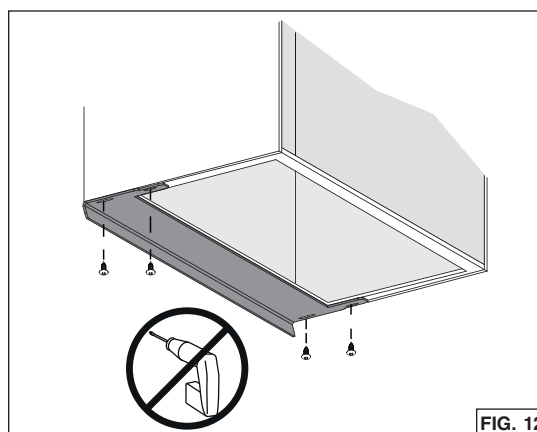

FIG. 12
7. There are 3 different sizes of filler included with these units, designed to fit up to 13-in. depth cabinets. For up to 15-in. depth cabinets, another set of 4 fillers is available (for HBN1246SS unit, order: HADTBN24, for HBN1306SS: order HADTBN30). Choose the filler that fits to cover the back bottom edge of the cabinet. Use 4 no. 6 x 5/8" truss head wood screws (included) to mount it (FIG. 12).